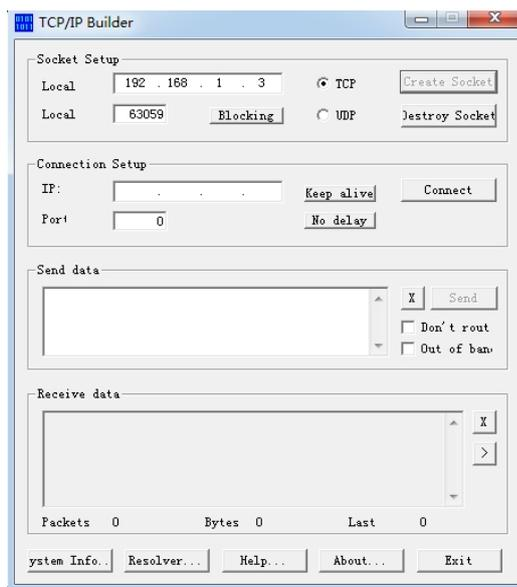

Fig.1.3
3. In "**Socket Setup**" group, at the first **Local** enter your PC's IP address, for example this demo PC is at 192.168.1.3, and then select **TCP**. At the second Local, leave the value 0 as default, and then click **Create Socket**. If you don't know your PC's IP address, please click on **System Info...** at bottom left, and you will get your PC IP address. Now we should see the following **Fig.1.3**(second **Local** will automatically change to a random value, it's OK):